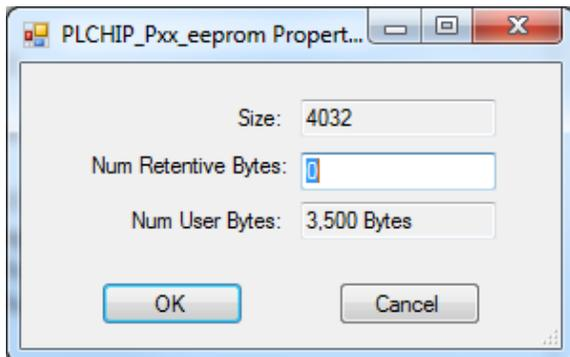

Figure 2-31 - PLCHIP Pxx_eeprom Properties
5. Click **OK**. The **PLCHIP_Pxx_eeprom Properties** dialog will open. Leave the default settings (Num Retentive Bytes set to 0). See Figure 2-31. Click **OK**.